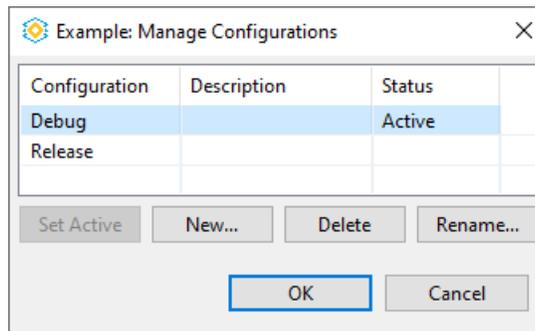

Figure 3.22. Manage Configurations Dialog
- b. The **Manage Configurations** dialog opens (Figure 3.22) for choosing active configuration. By default, a **Debug** configuration creates executables containing additional debug information that lets the debugger make direct associations between the source code and the binary files generated from the original source. A **Release** configuration provides the tools with options setting to create an application with the best performance.